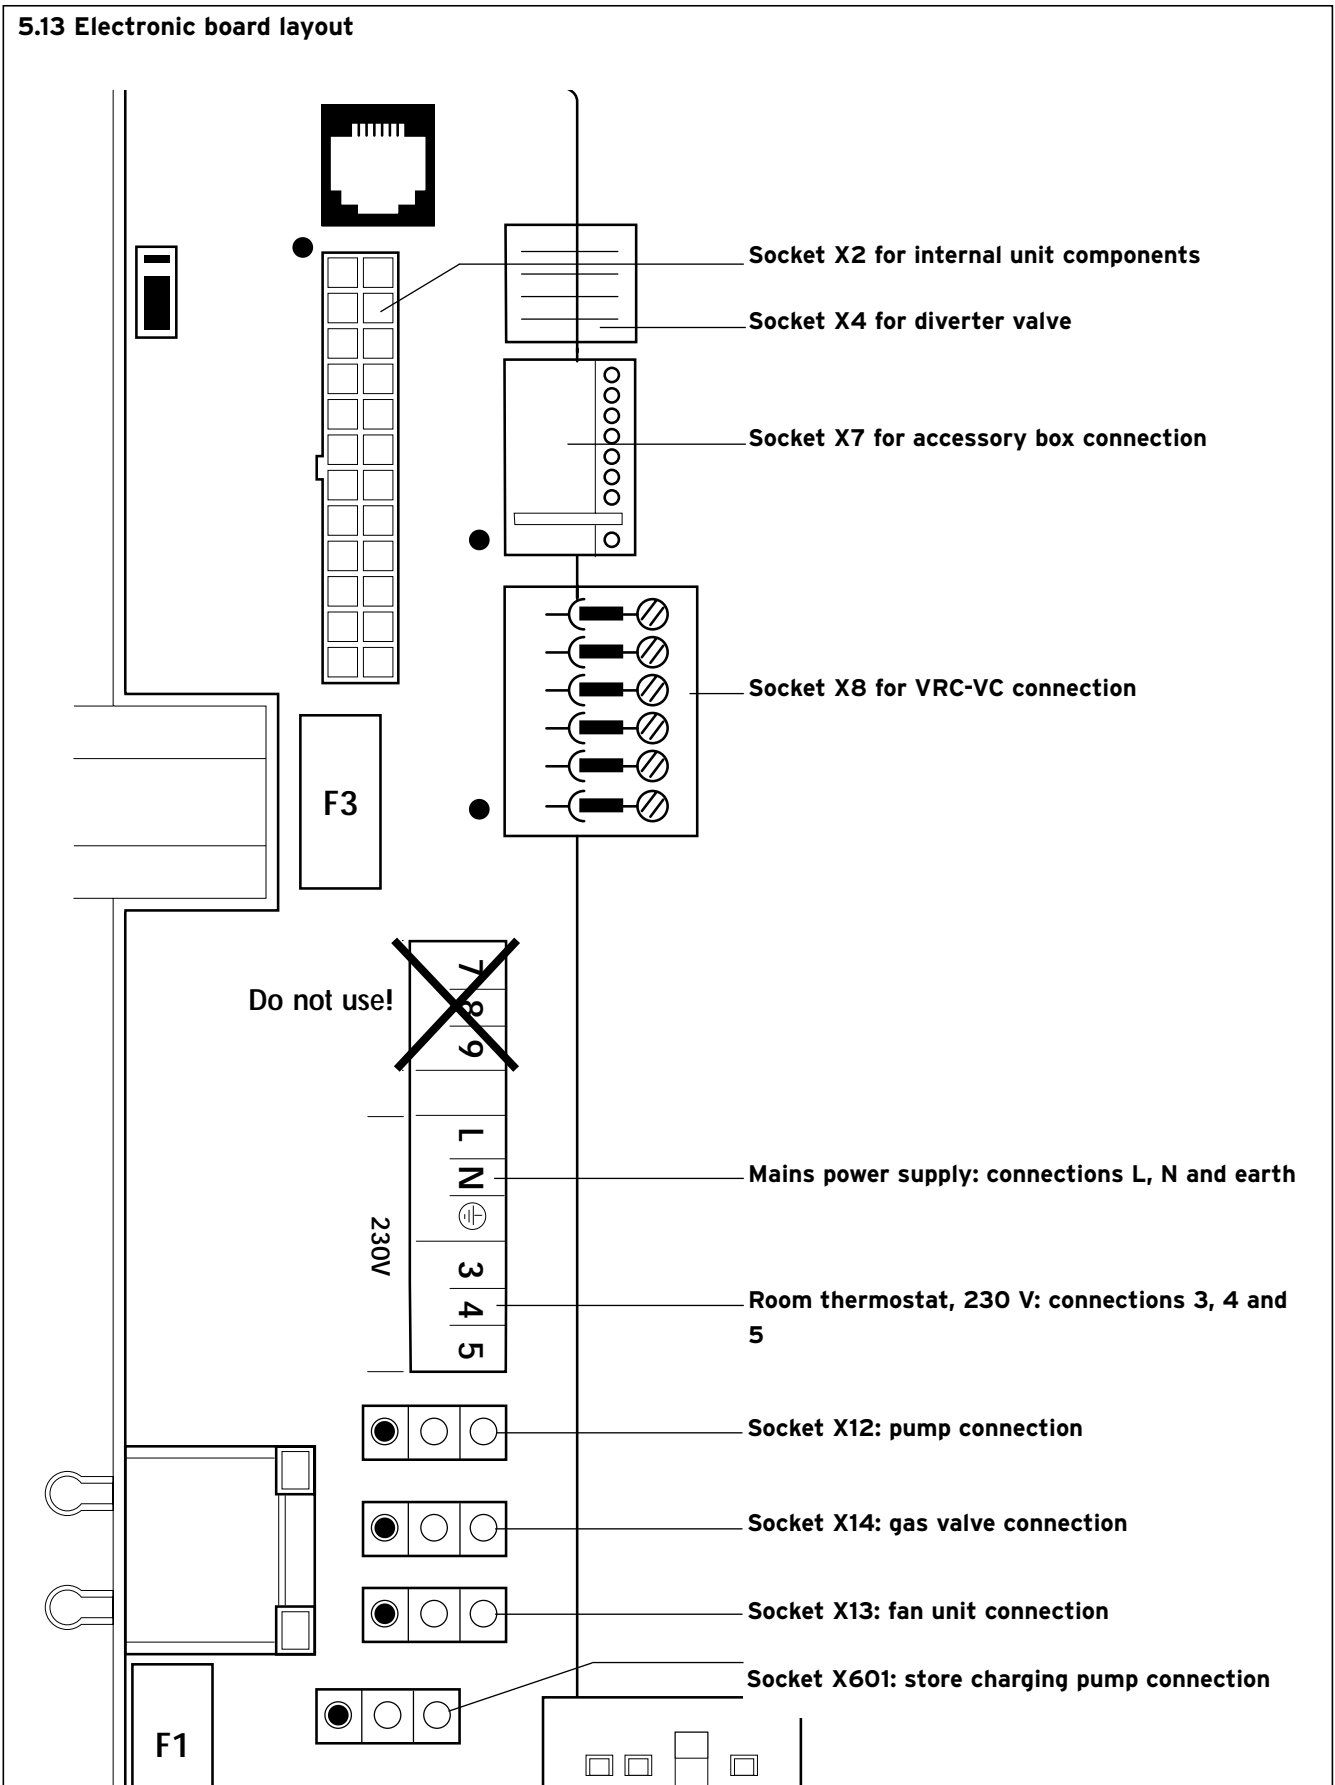

Fig. 5.11: Connection wiring
- Connect the power supply cord as follows (Fig. 5.11, on page 20).